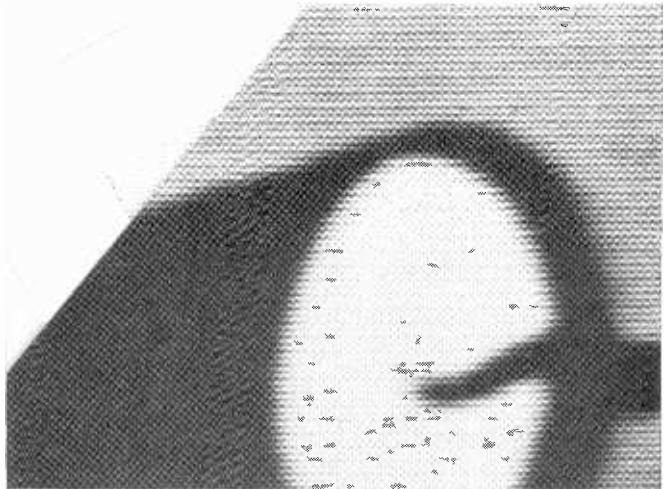

Fig. 9. In this same-size portion of the TV picture, note the sharp definition of the lines, indicating excellent focusing.
**PICTURE NOT IN FOCUS** Defocusing is usually a secondary symptom caused by low voltage. Check the low-voltage rectifiers, horizontal output, damper, and audio output tubes. Quite often a weak audio output tube or other upset in this circuit will not be great enough to noticeably affect the sound, but it will be great enough to upset the focus. Some sets have a focus adjustment. Some have a special focus rectifier tube and some sets have a link on the CRT socket. An example of good focus can be seen in the close-up photo in Fig. 9.